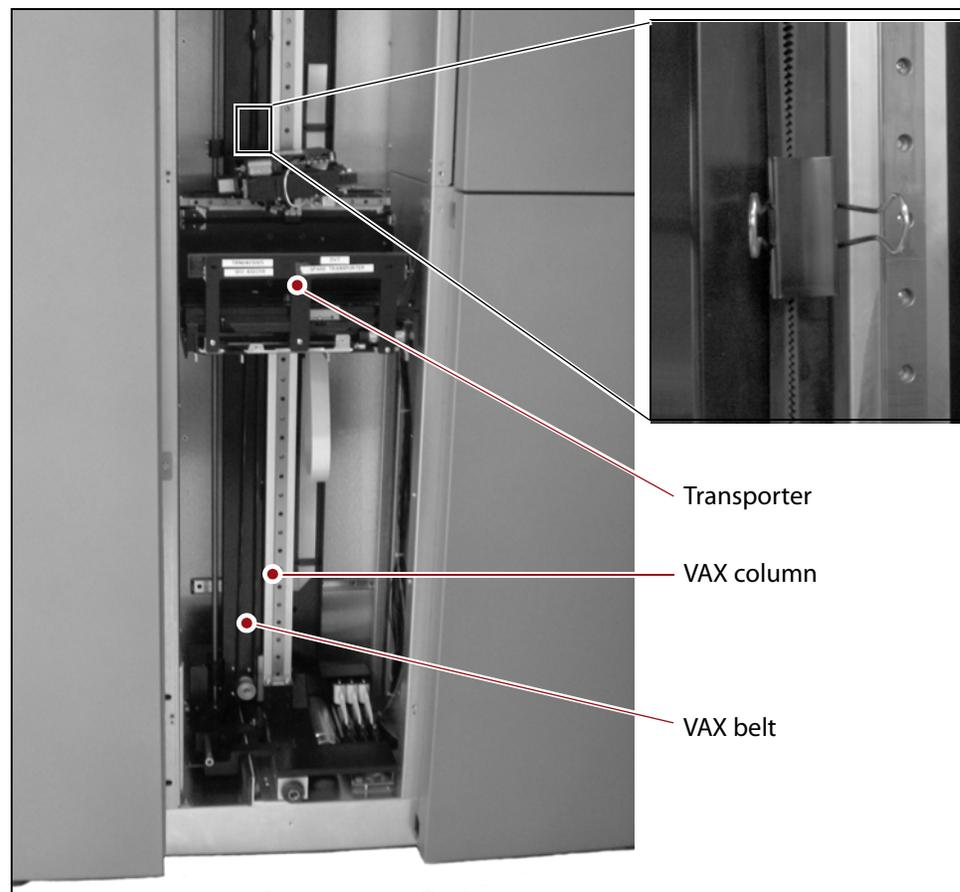

Figure 18 Clamp the VAX belt with a binder clip to hold the transporter.
- b. Reach around the VAX column and use a medium binder clip to pinch the two sides of the VAX belt together (see Figure 18 on page 19).